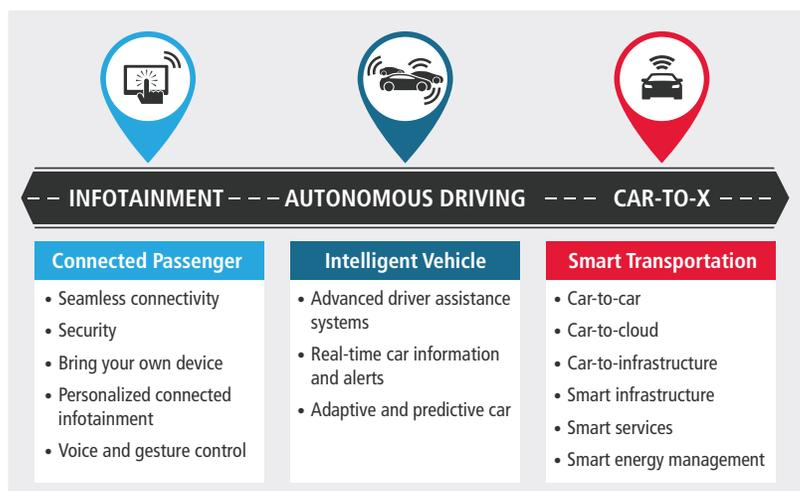

Figure 1: Technology is making vehicles increasingly smarter
As the automotive industry continues to develop more autonomous driving features and self-driving cars, automotive electronics will maintain an integral role in enabling these capabilities. Future vehicles will boast more integrated infotainment functions, sensor clusters, computer power, car-to-object (Car2X) communication technology, high-bandwidth Ethernet networks, and high-definition (HD) displays. While electronic components are enhancing the drive, government regulations are increasingly calling for automotive manufacturers to integrate redundant sensing and control systems with more cameras, radar, and other ADAS features into vehicles for increased safety and reliability. Figure 1 depicts how technology is transforming transportation.